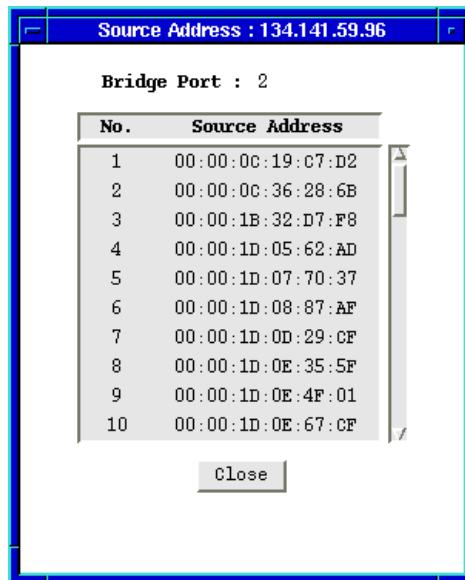

Figure 2-14. The Bridge Port Source Address Window
2. Click mouse button 3 on the Port Index or Port Status display for the bridge port whose source address list you wish to view; drag down to **Source Address**, and release. The Source Address window, Figure 2-14, will appear.